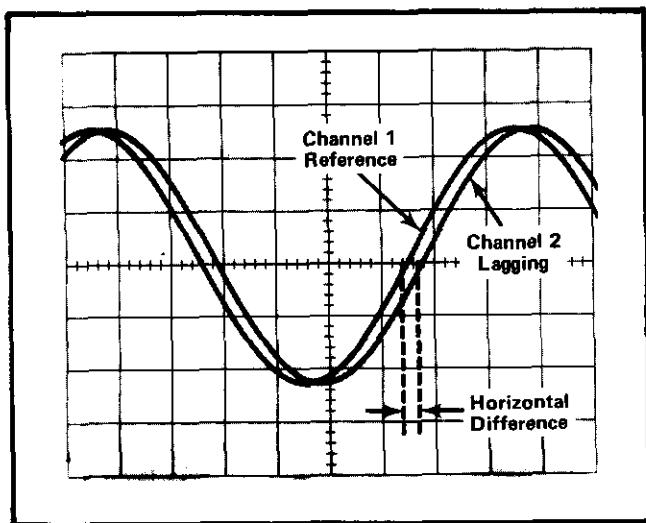
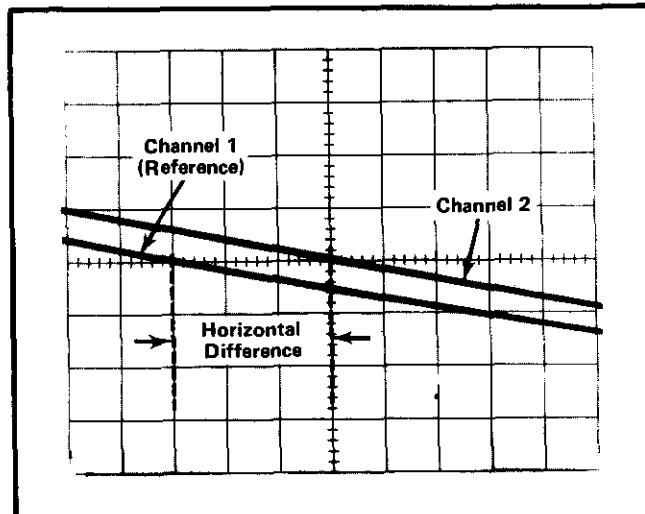

Fig. 1-6. Measuring phase difference between two signals.
Fig. 1-7. High resolution phase measurement using time-base magnifier.
8. Adjust the time-base Variable Time/Div control until one cycle of the reference signal occupies exactly eight horizontal divisions between the second and tenth vertical lines of the graticule (see Fig. 1-6). Each division of the graticule represents 45° of the cycle ($360^\circ \div 8$ divisions = $45^\circ/\text{division}$). The sweep rate can now be stated in terms of degrees as $45^\circ/\text{division}$.
EXAMPLE: Assume a horizontal difference of 0.3 division with a sweep rate of $45^\circ/\text{division}$ as shown in Fig. 1-6.
EXAMPLE: If the sweep rate is increased 10 times by the Magnifier, the magnified sweep rate is $45^\circ/\text{division} \div 10 = 4.5^\circ/\text{division}$. Fig. 1-7 shows the same signals as used in Fig. 1-6 but with the Magnifier set to X10. With a horizontal difference of 3 divisions, the phase difference is: